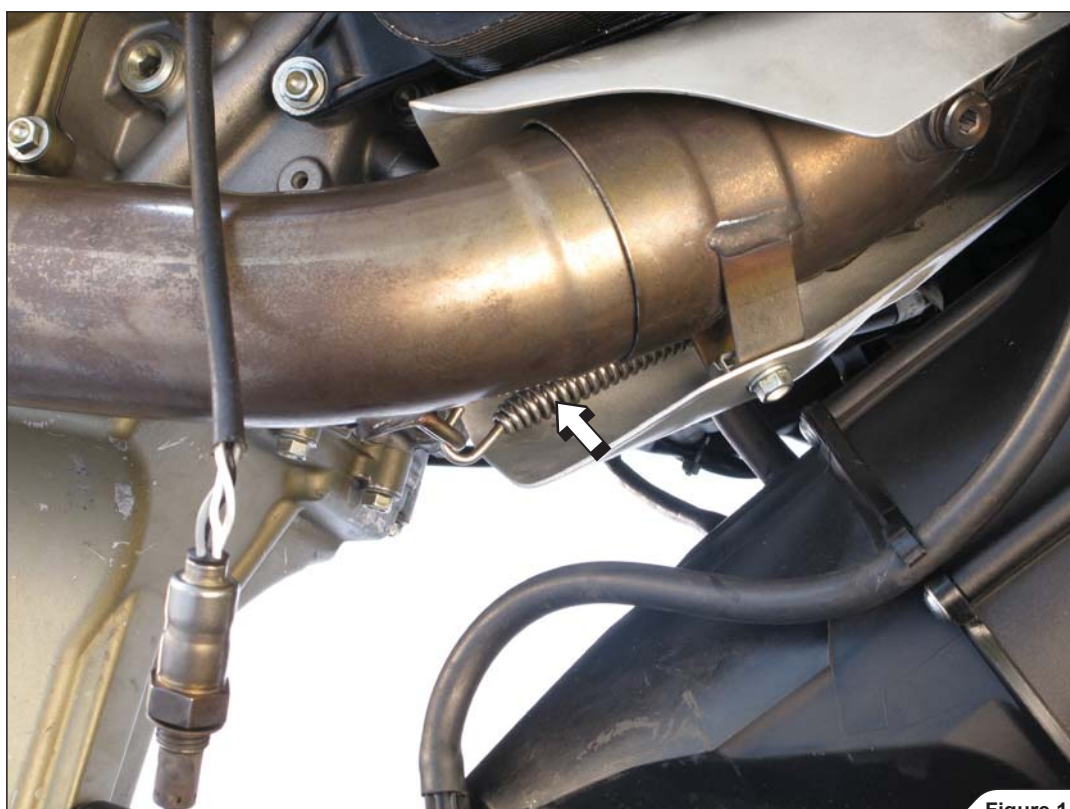

Figure 14
12. Undo the marked spring (Figure 14).